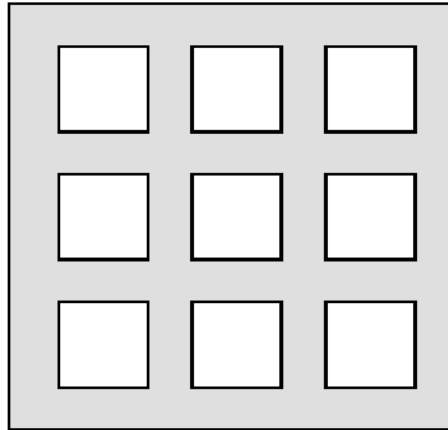

Figure 22: Solder paste application on exposed pad
3. For the PCB thermal pad, solder paste should be printed on the PCB by designing a stencil with an array of smaller openings that sum to 50% of the QFN exposed pad area. Solder paste should be applied through an array of squares (or circles) as shown in Figure 22.